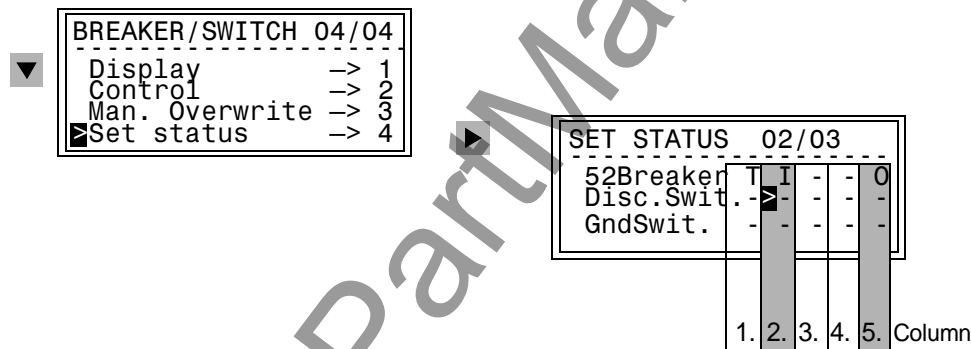

Figure 7-51 Set Status at the Front Panel
With a device ready for operation, first press the **MENU** key. The **MAIN MENU** appears. Using the **▼** key, select the menu item **Control** and go to editing the control functions with the **►** key. The selection **CONTROL** appears. Enter the **BREAKER/SWITCH** menu by pressing the **►** key. Select the item **Set Status** with the **▼** key and switch to the next option using the **►** key. **SET STATUS** appears, as shown in Figure 7-51.
The example in Figure 7-51 shows the position for the circuit breaker (52) was tagged (T) after the input ignore (I) was set, which means the message input was de-coupled from the system. The output block is active (O), so the command output is also de-coupled from the system. For the disconnect switch and the ground switch, no limitations are set.